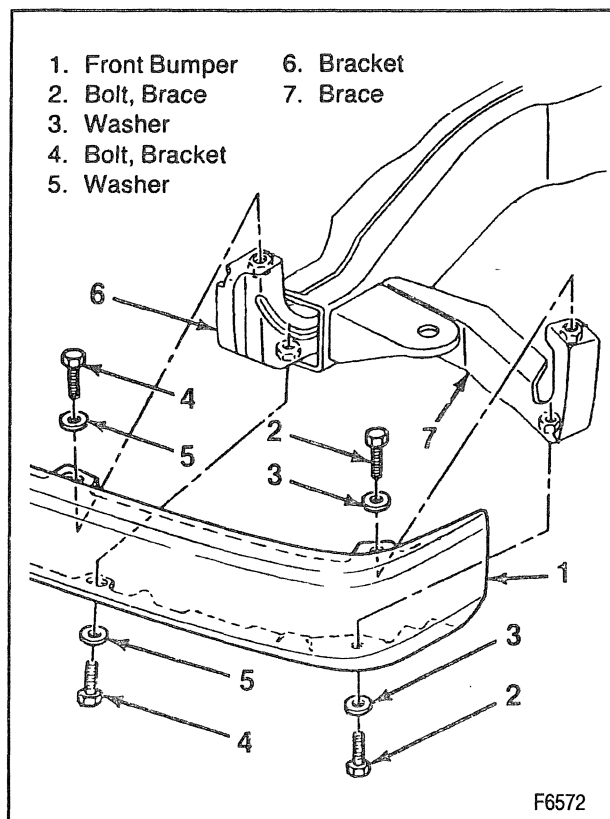

Figure 4—Front Bumper
↔ Remove or Disconnect (Figures 4 and 5)
2. Bumper to brace bolts and washers (figure 4).
Install or Connect (Figures 4 and 5)